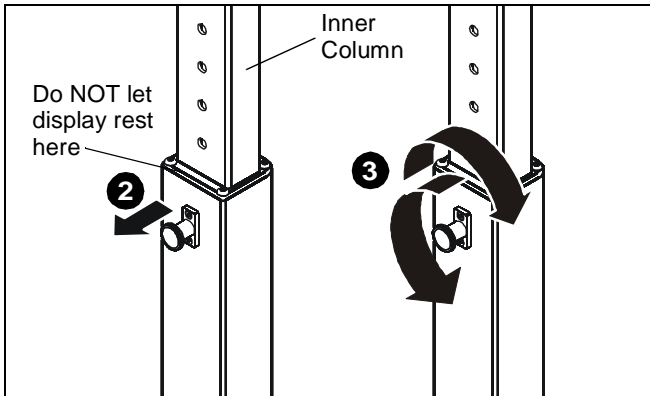

Figure 11
- Adjust the stand to the desired height by slightly lifting the head assembly, pulling out knob on the center post and turning 90° in either direction to disengage the locking mechanism. (See Figure 11)
- Raise or lower the center post, then turn the knob 90° either direction to engage the knob and lock the stand at desired height. (See Figure 11)
IMPORTANT ! : Set the height of the stand so the display does NOT rest on the lower part of the center post. (See Figure 11) Always set the height so the knob is engaged in a hole in the center post.